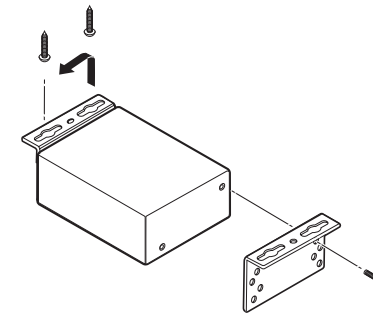

Figure 2-6 — Preparing the YCS SW2 A for under-desk mounting
3. Attach one bracket to the side of the unit, using the provided machine screws (see figure 2-6, below).